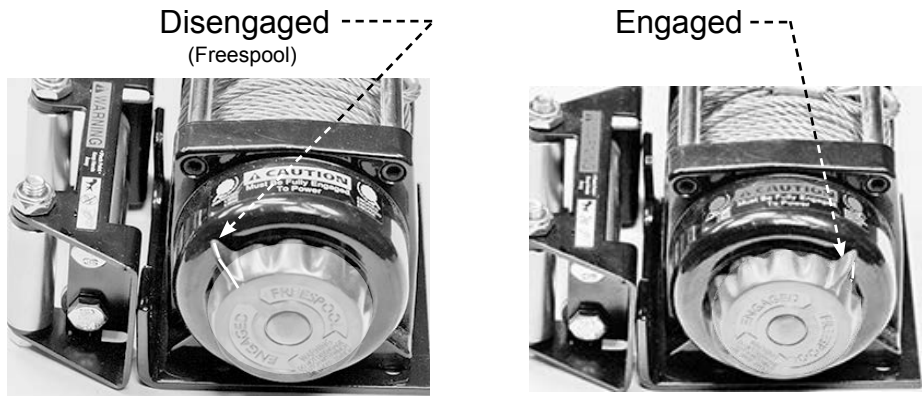

Figure 10
Turn the clutch knob to, Disengaged "Free" position as shown in Figure 10. Pull several feet of wire rope off the drum. Return the clutch knob back to the, "Engaged" position. Activate the
Turn the clutch knob to the, Disengaged "Free" position as shown in Figure 10. If there is a load on the wire rope, the clutch knob may not pull out easily. DO NOT FORCE THE CLUTCH KNOB. Release tension on the clutch by joggng out some of the wire rope.
Release the clutch and pull out the wire rope and secure to anchor or load. Check that there are at least five (5) turns of wire rope left on the drum. Re-engage the drum by returning the clutch knob to the, "Engaged" position. See Figure 10 .